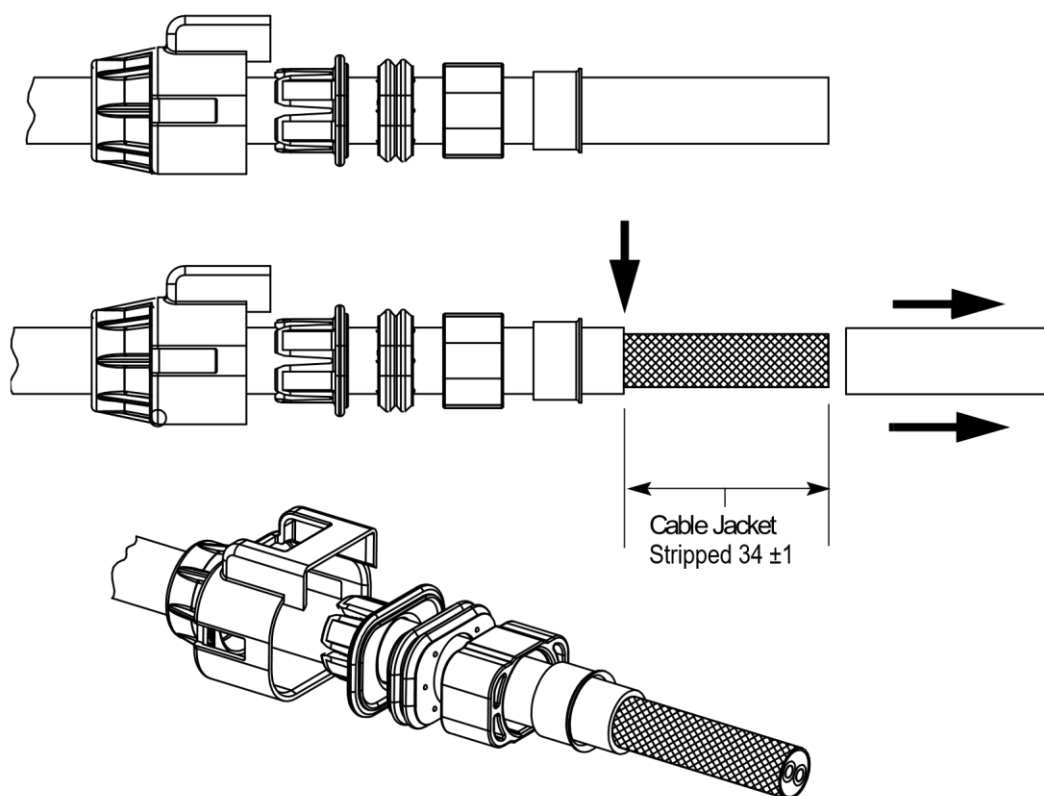

Figure 4
- 3.6.2.** Strip and remove the outer cable jacket and separator (if present) from the end, exposing the braided cable shield as shown in Figure 4. Residue of separation foil max 2mm around cable and 4 mm for sharp edges.